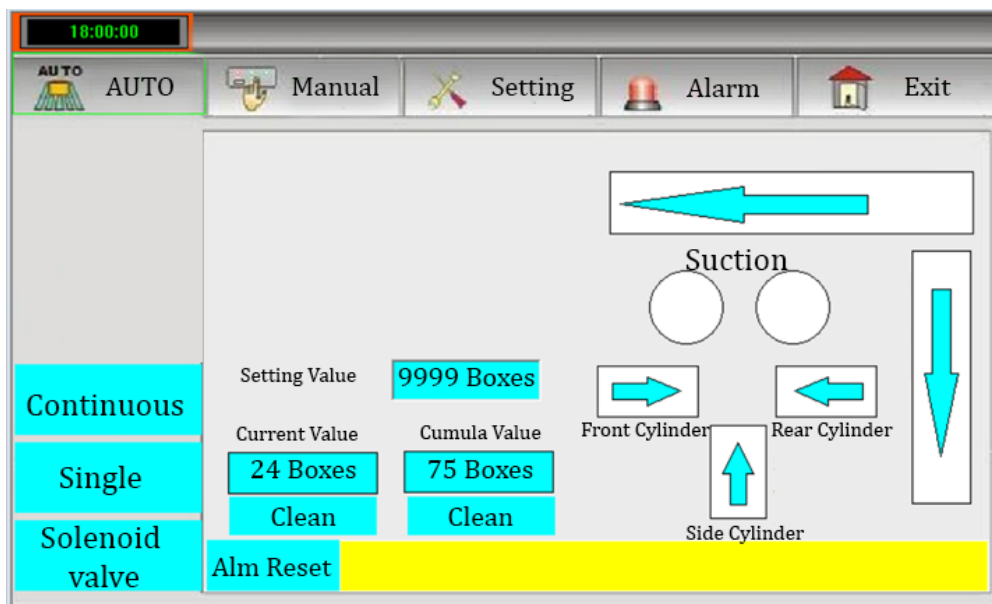

Figure 10
- 3) The main Menu is as shown in Figure 10